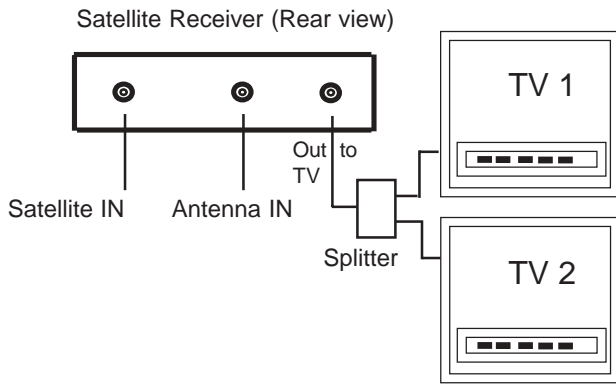

Figure 8
3. If the coach has only a VHF Antenna without a park cable or A-B switch or splitter (Fig. 8).
NOTE: If there are two TV’s then connect a splitter as shown (Fig. 8).